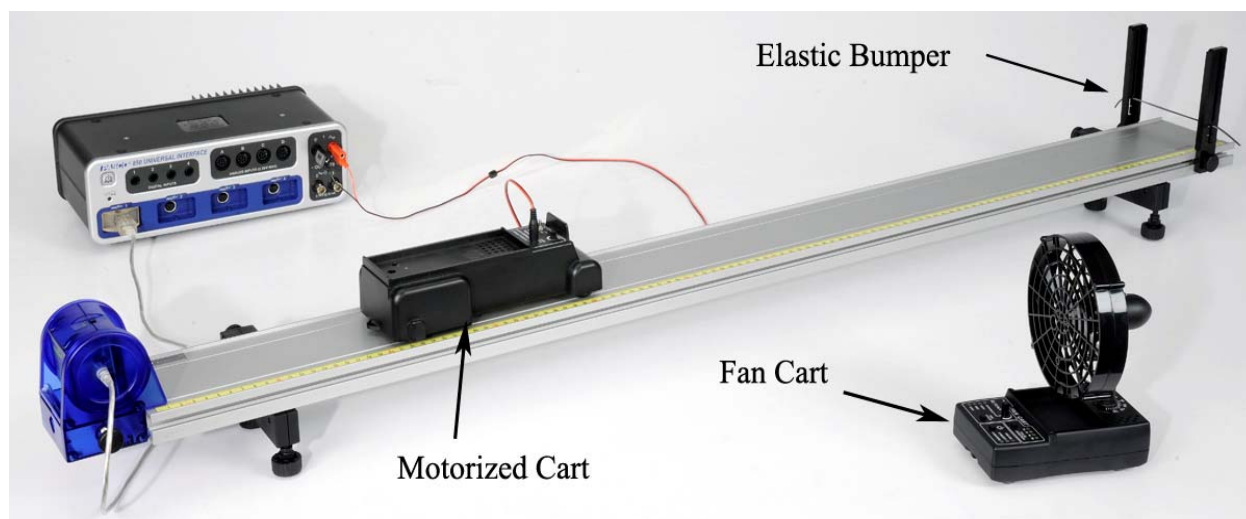

Figure 1: Motion of the Motorized Cart
1. Set up the track as shown in Figure 1 with the elastic bumper and feet. Note that the motion sensor is on the end of the track that is the zero point for the yellow rule. Connect the motion sensor to the 850 and make sure the range switch is on the "Cart" icon.